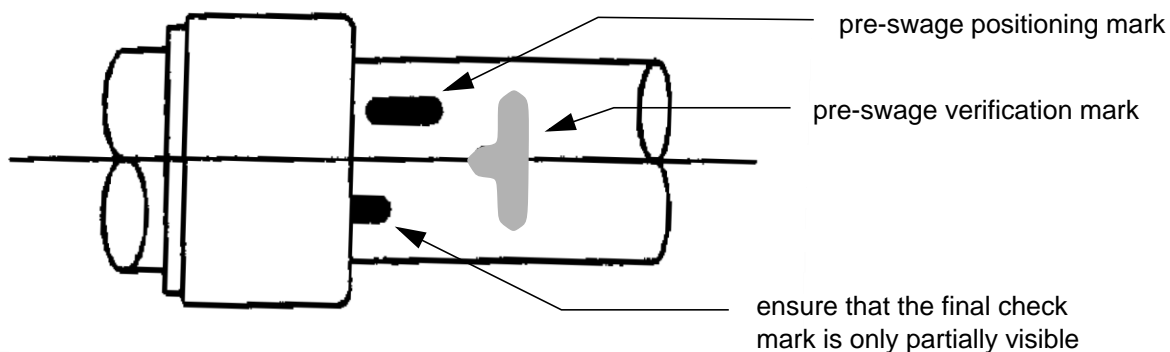

Figure 5 - Verification of Final Swaged Fitting
- 6.1 For installed fittings, the tube final check mark must be partially visible as shown in Figure 5. Replace the fitting if the mark is either completely hidden or completely visible.